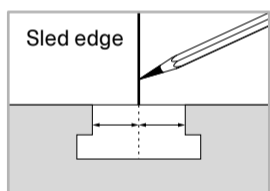

Fig 1c - Mark front & back edges
- 1.3 Mark the center of the miter slot on the front and back edges of your sled base [Fig 1c].